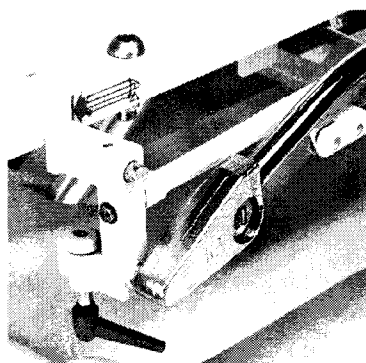

Figure 1
- 1 Put the siderail in its stored position on the side board with the locking mechanism at the foot end of the bed, as indicated by the label on the side board. Place the vices around the side board. (see figure 1).